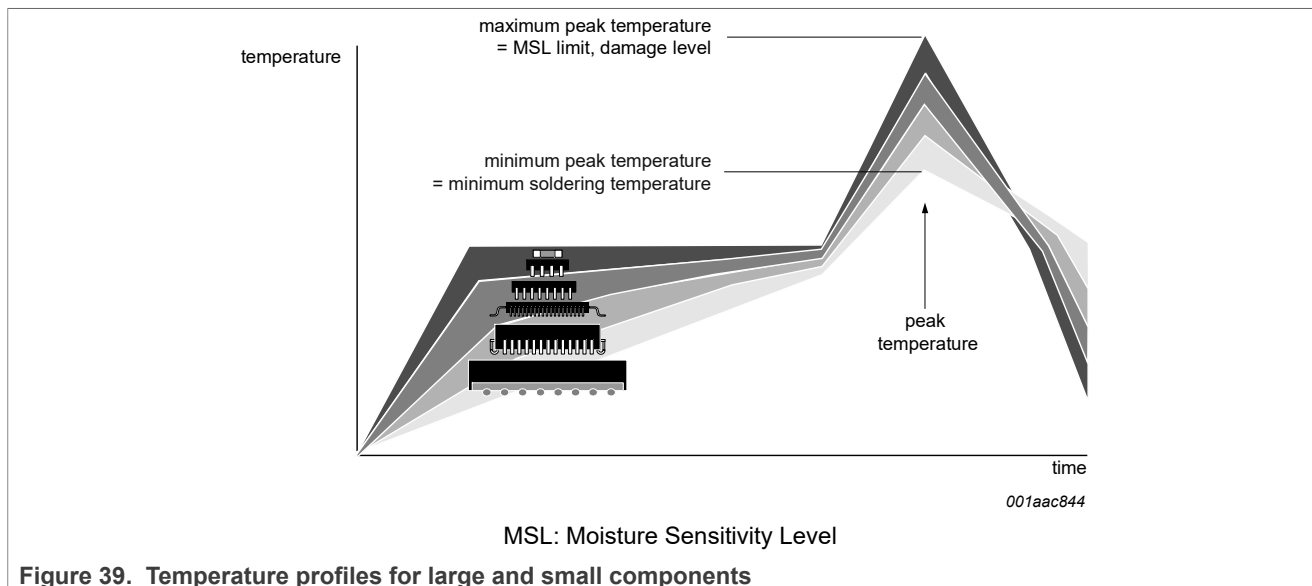

Figure 39. Temperature profiles for large and small components
- Lead-free versus SnPb soldering; note that a lead-free reflow process usually leads to higher minimum peak temperatures (see Figure 39) than a SnPb process, thus reducing the process window
Studies have shown that small packages reach higher temperatures during reflow soldering, see Figure 39.